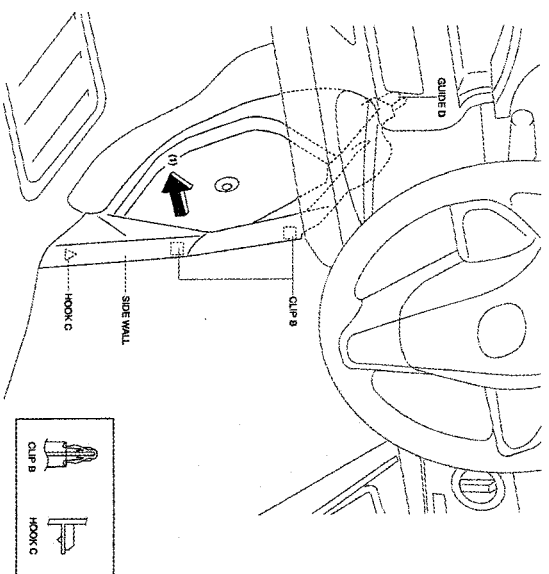

FIGURE 4
- PULL OUT THE SIDE WALL IN THE DIRECTION OF THE ARROW (1) THEN REMOVE THE CLIPS B AND HOOK C. (SEE FIGURE 4)